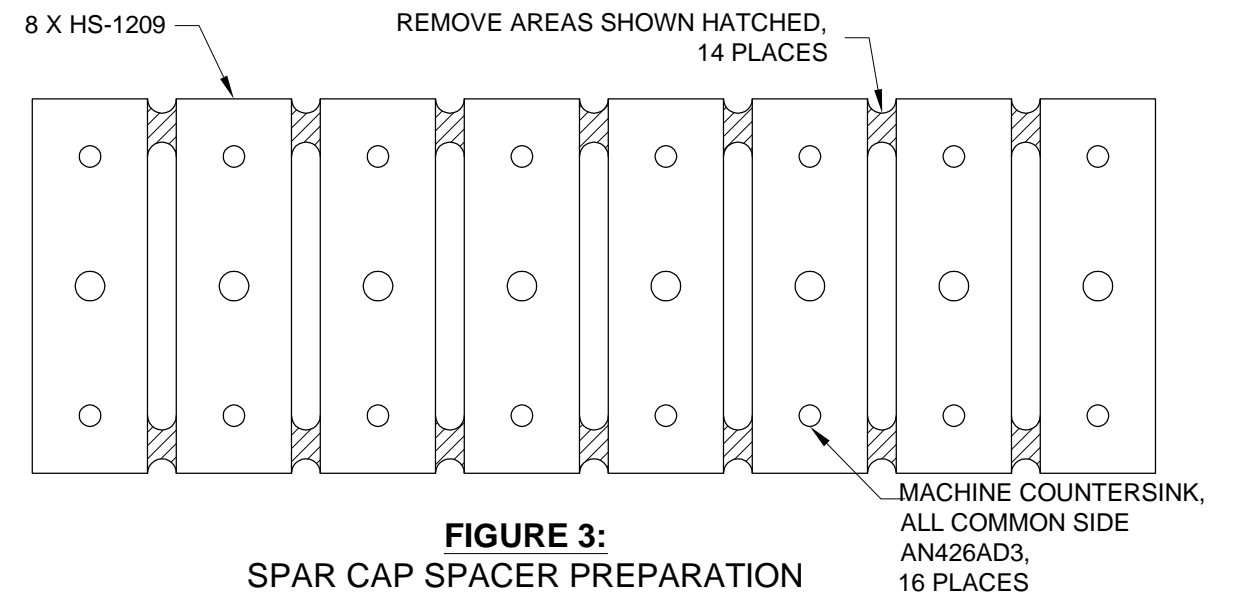

FIGURE 3:
Step 8: Machine countersink the #40 holes in the HS-1209 Spar Cap Spacers for 3/32 inch rivets per call-out in Figure 3.
Step 9: Separate the HS-1209 Spar Cap Spacers by removing the material shown hatched in Figure 3.